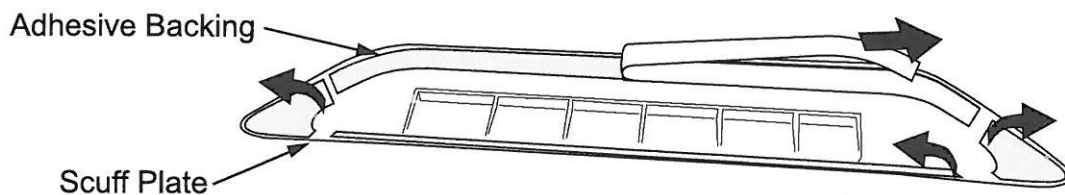

Figure 3
A. Locate Scuff Plate marked as LH and remove the backing from the tape and discard. (Figure 3)